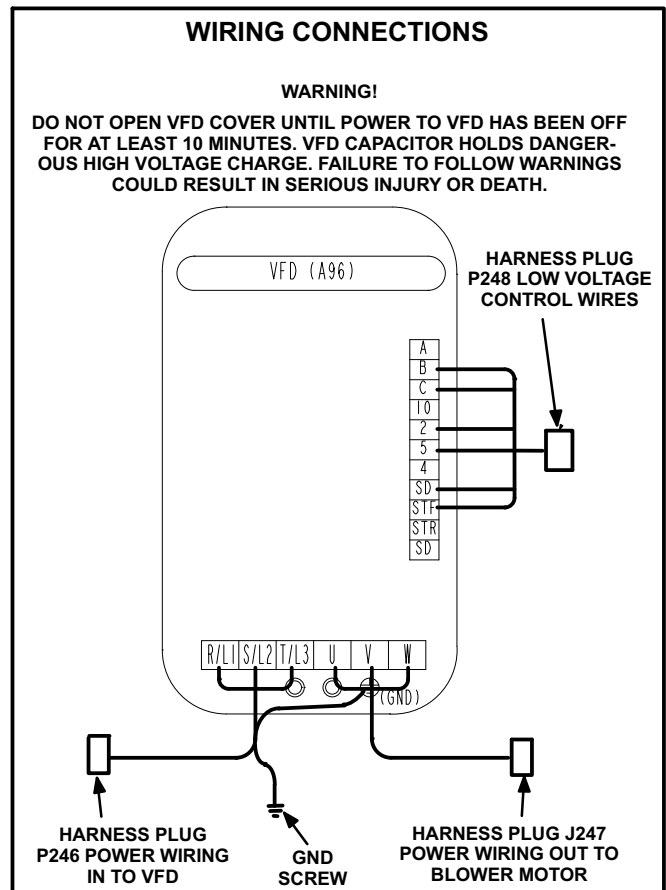

FIGURE 3
- 5- Carefully connect existing wires to the replacement VFD as illustrated in figure 3. On units without harnesses, take care to properly connect the power wiring going into and out of the VFD.